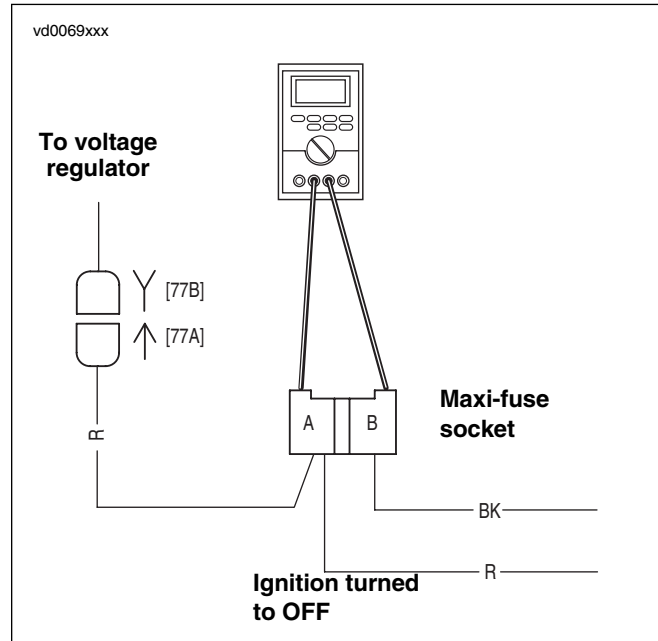

Figure 1-15. Milliampere Draw Test
2. See Figure 1-15. Using HARNESS CONNECTOR TEST KIT (Part No. HD-41404) red male socket probes and patch cords, connect ammeter to maxi-fuse socket terminals. With this arrangement, you will also pick up any regulator drain.